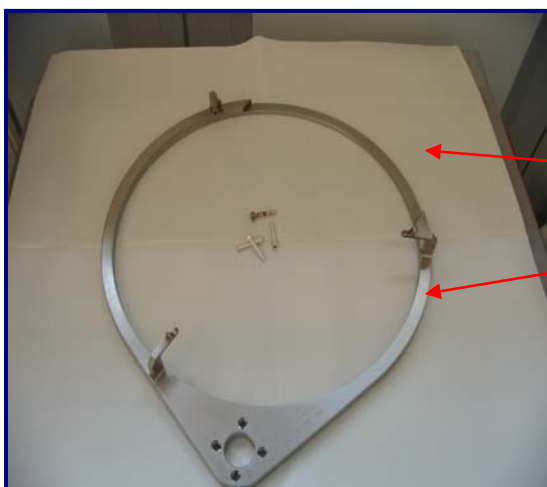

Fig 3: HT9423 CushionPAD and Degas Heater lift ring
Step 3: Properly stage HT9423 CushionPAD on flat workstation and place lift ring on top of CushionPAD (See Fig 3)